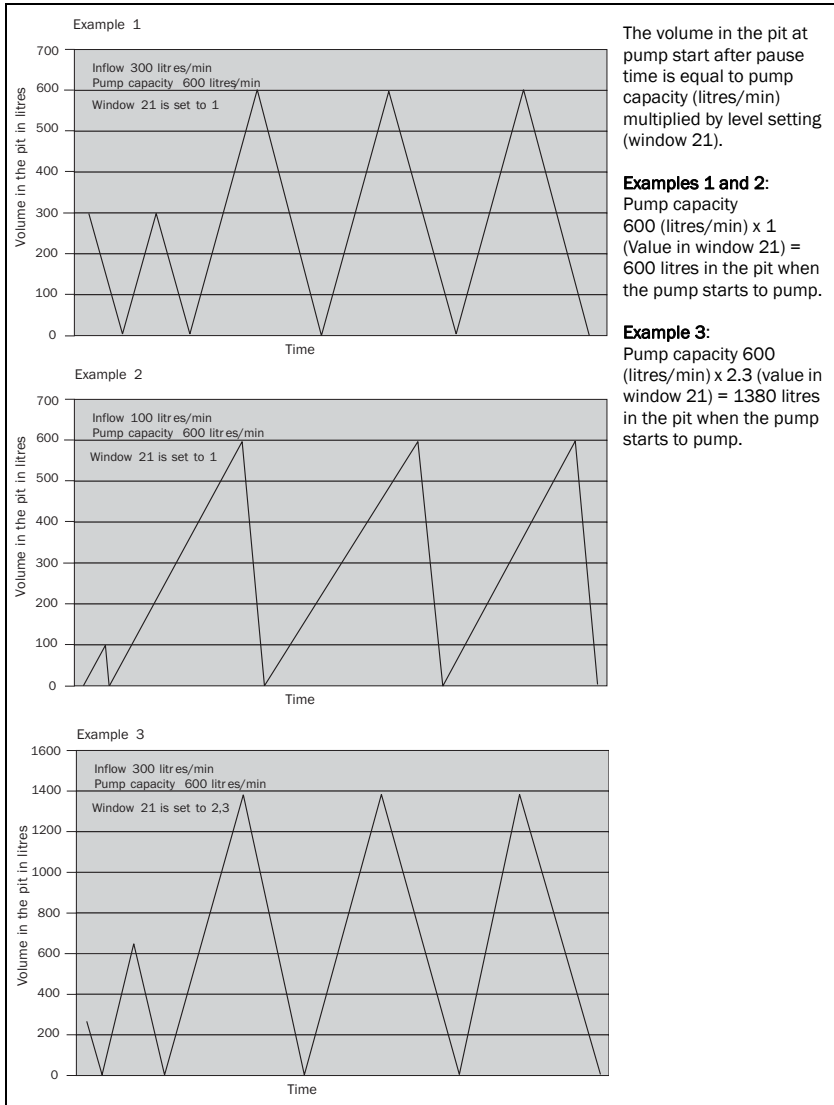

Fig. 11 Pump cycle example with different level settings in window 21
16. Change the level setting in window 21 between 1-10 for shorter or longer pump cycles and levels in the pit. A low value gives shorter pump cycles and lower level in the pit. See Fig. 11 and 14.
pause time (window 22). The parameters can be adjusted to achieve desired magnitudes of pause times, start level and number of starts per hour. See Fig. 11, page 23, and 14, page 30.
The level setting is best adjusted after a few pumping cycles in order to adjust the pause time, and hence the start level in the pit. See schematic pump cycle example in Fig. 11 and 14.